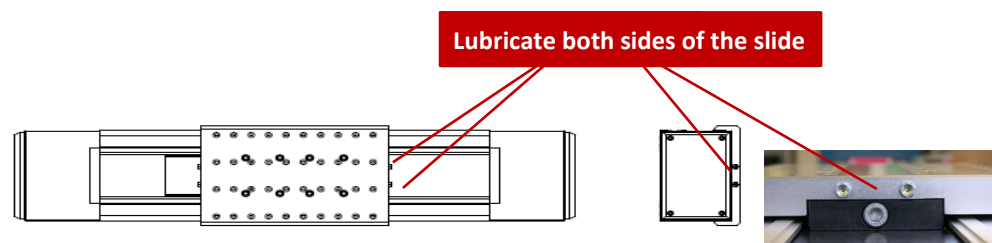

Fig. 28 Grease nipples on the slide
4. Lubricate the slide at the four grease nipples (Fig. 28) with a grease gun (2-3 strokes).